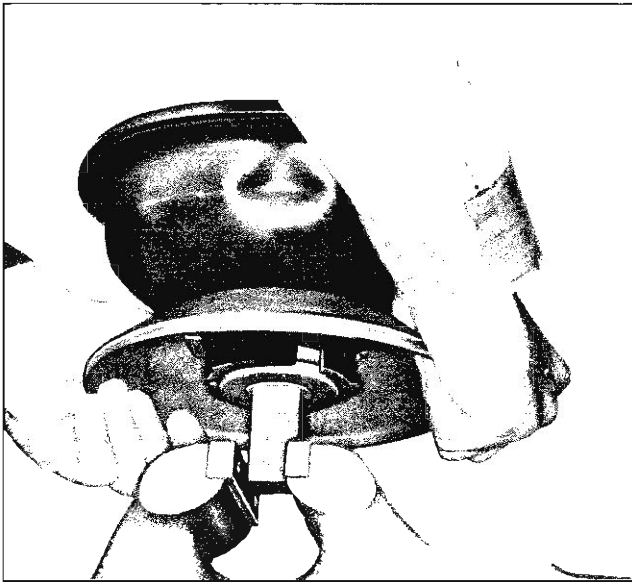

Fig. 28—Separating Power Piston from Support Plate
13. Pull the diaphragm edges away from the support plate and grip the steel support plate by hand, press down and rotate counterclockwise to separate the plate from the power piston. (Fig. 28)